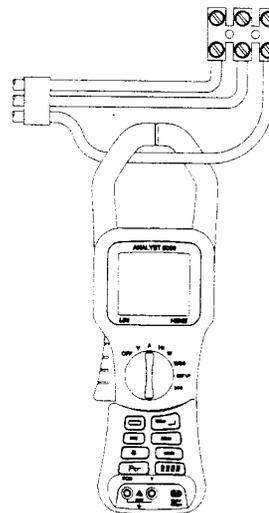

Fig. 3
- Press the trigger to open the jaws and clamp around the current carrying conductor as shown in Fig. 3.
- To measure the frequency of the current, press the trigger to open the jaws, and clamp them on the current carrying conductor, as shown in Fig. 3 and read the display.